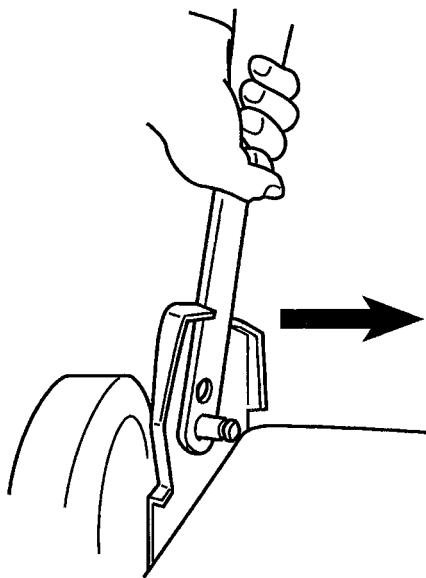

Figure 33
1. Push in right bottom handle section until handle slides past stops of handle brackets (Fig. 33).